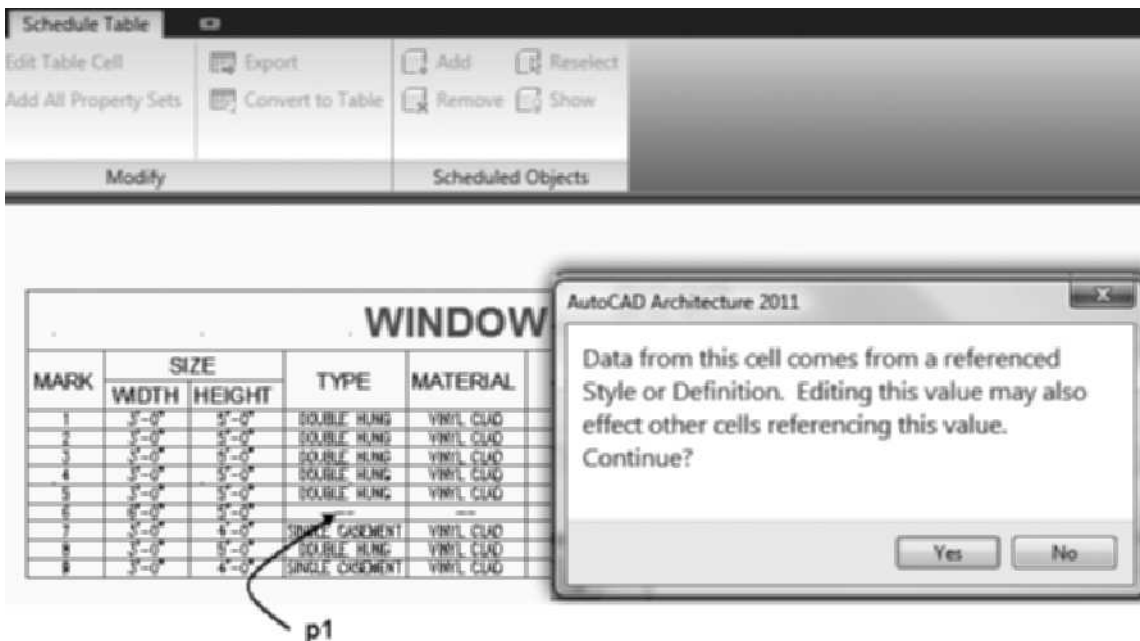

FIGURE 11.66 AutoCAD Architecture message box for editing style-based data
17. Select the Window Schedule and select **Edit Table Cell** from the **Modify** tab of the Schedule Table tab. Click the (-) in the **Type** column for the number **6** window at **p1** in Figure 11.66. Click **Yes** to dismiss the AutoCAD **Architecture** warning box and open the **Edit Property Set Data** dialog box. Type **PICTURE ARCHED** in the **Type** field of the **Window Styles** property set. Type **VINYL CLAD** in the **Material** field of the Window Styles property set. Click **OK** to dismiss the Edit Property Set Data dialog box. Press ESC to end the command.